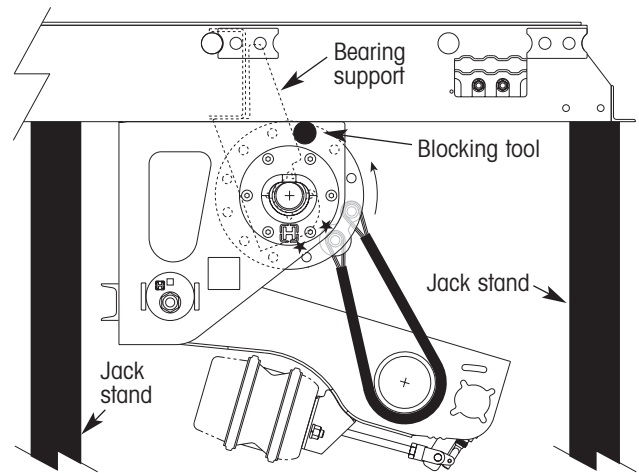

Figure 23. Turn trailer mode valve to "R" position
4. With personnel clear of the trailer suspension, turn the trailer mode valve (figure 3) to the "R" position (rail mode). The trailer will lower slightly onto the jack stands, and the flange plate assembly will briefly rotate counterclockwise until the blocking tool contacts the rear edge of the bearing support, preventing any additional suspension travel (figure 23). Make sure the trailer rests securely on the jack stands.